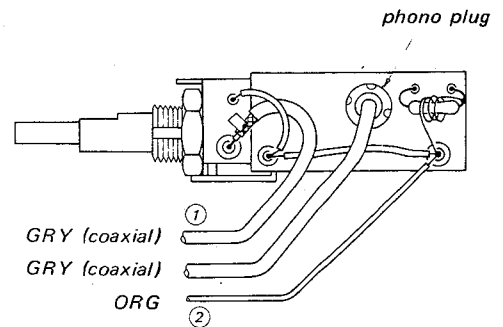

Fig. 14
3. Disconnect a phono plug in Fig. 14.
4. Unsolder a coaxial cable, and an orange lead (① , ② in Fig. 14).